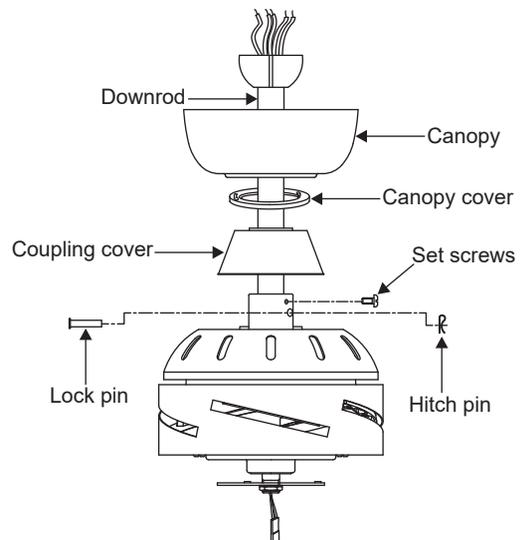

Figure 7
Step 6. Route wires exiting from the top of the fan motor through the collar cover, canopy cover, canopy and then through the ball/downrod. (Fig. 7)
Step 7. Align the holes at the bottom of the downrod with the holes in the collar on top of the motor housing (Fig.7). Carefully insert the hanger pin through the holes in the collar and downrod. Be careful not to jam the pin against the wiring inside the downrod. Insert the locking pin through the hole near the end of the hanger pin until it snaps into its locked position, as noted in the circle inset of Fig. 7.